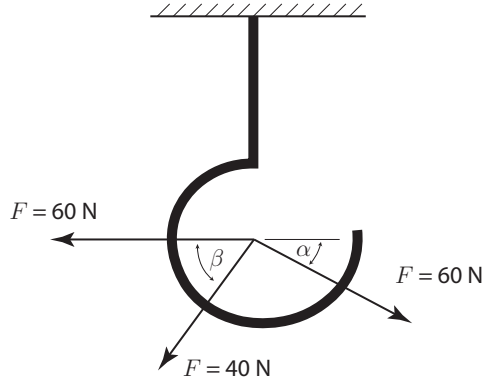

Figure 3: Problem 3.
3. The hook in Fig. 3 is subjected to three forces as show, where $\alpha = \pi/6$ and $\beta = \pi/4$. Determine the magnitude and direction of the resultant of the three applied forces.